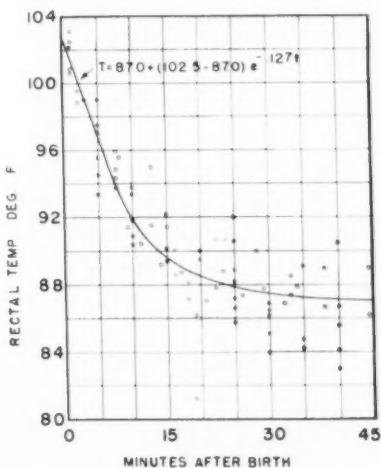

Fig. 2. Initial temperature drop, after birth, of 22 pigs
**Initial Temperature Drop.** The rectal temperatures of 22 pigs from tests 21, 30, 33 and 36 for their first 45 min after birth are plotted in Fig. 2. These pigs, which did not chill, were farrowed in ambient temperatures between 30 and 40 F. Twelve of these pigs which farrowed at 30 and 35 F received supplementary heat from an infrared source at an average maximum intensity of 0.6 Btu per hr per sq in and the remaining 10 farrowed at 35 and 40 F with no supplemental heat. It was found that Newton's law applied to the initial temperature drop. The equation for the curve is